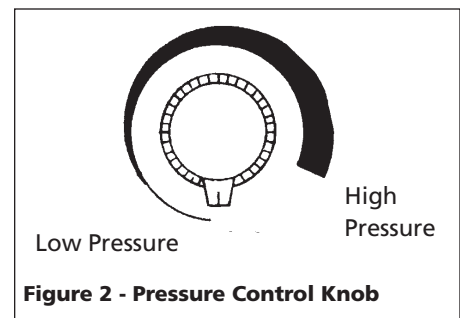

Figure 2 - Pressure Control Knob
- Pressure Control Knob (Figure 2). Used to adjust pressure. Turn clockwise to increase pressure and counterclockwise to decrease it.
4. Turn the pressure control knob to low pressure. Refer to Fig. 2.